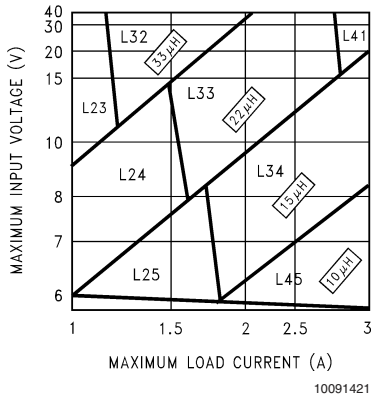
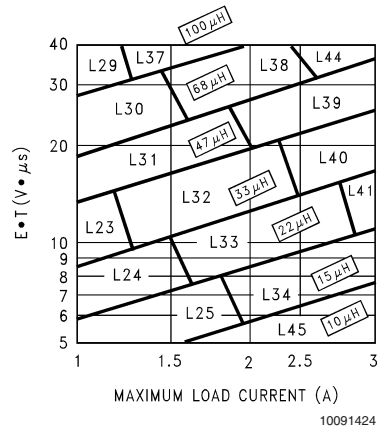

FIGURE 3. LM2676-3.3
FIGURE 6. LM2676-ADJ
Step 3: Determine the inductor required by using one of the four nomographs, *Figure 3* through *Figure 6*. Table 1 provides a specific manufacturer and part number for the inductor.
Step 5: Determine an input capacitor from Table 4 for fixed output voltage applications. Use Table 2 to find the specific capacitor type. For adjustable output circuits select a capacitor from Table 2 with a sufficient working voltage (WV) rating greater than $V_{in\ max}$, and an rms current rating greater than one-half the maximum load current (2 or more capacitors in parallel may be required).
Step 3: Use the nomograph for the 3.3V device, *Figure 3*. The intersection of the 16V horizontal line ($V_{in\ max}$) and the 2.5A vertical line ($I_{load\ max}$) indicates that L33, a 22 μH inductor, is required.
Step 3: To use the nomograph for the adjustable device, Figure 6, requires a calculation of the inductor Volt•microsecond constant (E•T expressed in V•μS) from the following formula:
Using Figure 6, the intersection of 27V•μS horizontally and the 2A vertical line (I_{load max}) indicates that L38, a 68μH inductor, should be used.
Important Note: When using the adjustable device in low voltage applications (less than 3V output), if the nomograph, Figure 6, selects an inductance of 22μH or less, Table 6 does not provide an output capacitor solution. With these conditions the number of output capacitors required for stable operation becomes impractical. It is recommended to use either a 33μH or 47μH inductor and the output capacitors from Table 6.